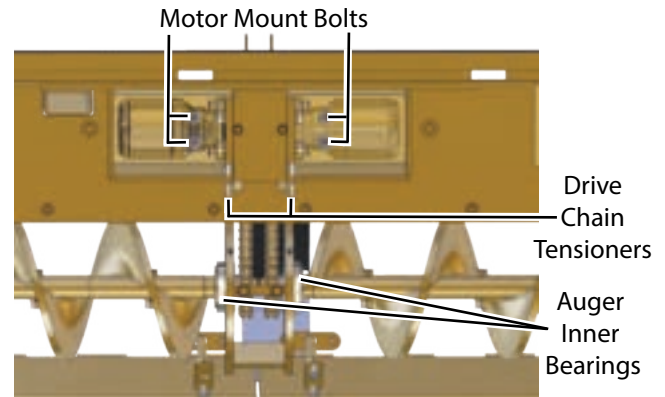

Figure 5-37. Auger Inner Bearings
6. Loosen the two (2) bolts on each auger motor mounting bracket, then loosen the two (2) drive chain tensioners. **(Figure 5-37)** The auger motors should slide down as you loosen the tensioners (tap with a rubber mallet if needed).
9. Check inner auger bearings. Replace if faulty. **(Figure 5-37)**